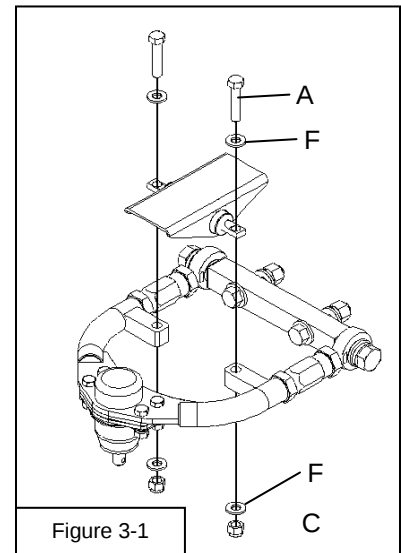

Figure 3-1
15. Install spring perch onto control arm mounting tabs as shown in illustration (Figure 3-1).